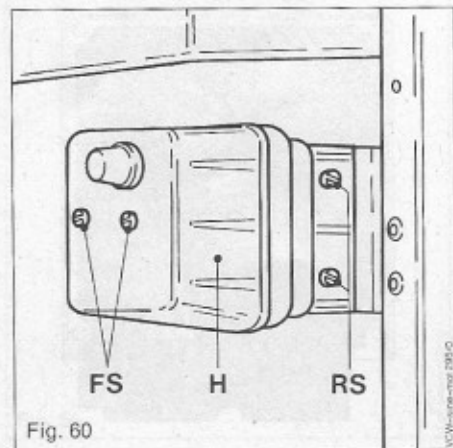

Fig. 60
Remove the two retaining screws (RS, Fig. 60) and open protective housing (H) with screw driver in the slot between the two halves of the protective housing.